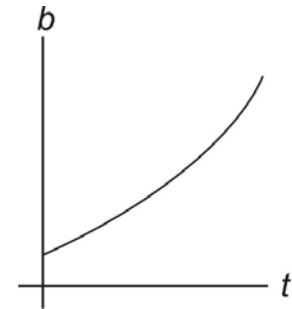

Fig. 1 The amount of bacteria in a colony with time.
- The growth rate of a colony of bacteria, given enough resources, is directly proportional to the size of the colony at that particular time. That is, the amount by which they change per unit time, or db/dt , becomes more as the amount of bacteria that is present increases, or $db/dt \propto b$. This is evident in the fact that the gradient of the graph of the amount of bacteria present as a function of time increases as the amount of bacteria increases - see **figure 1**. The proportionality constant is the growth rate, r , of the colony (which is constant). We incorporate the growth rate as follows into the exponential function